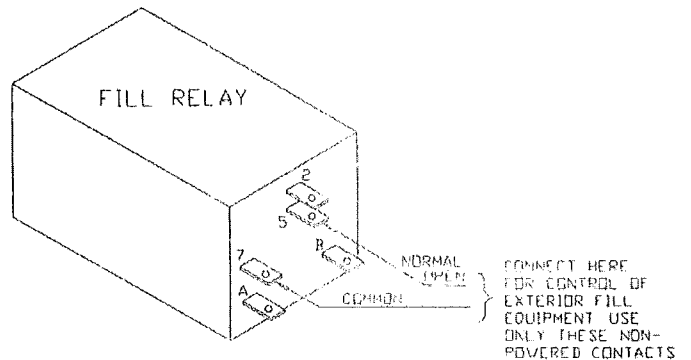

Figure 7A - 320 Relay Non Powered Contacts
2. On Model CF320, the power for the fill auger motor contactor is controlled by the non-powered contacts of the relay provided in the motor control cabinet. See Figure 7A.